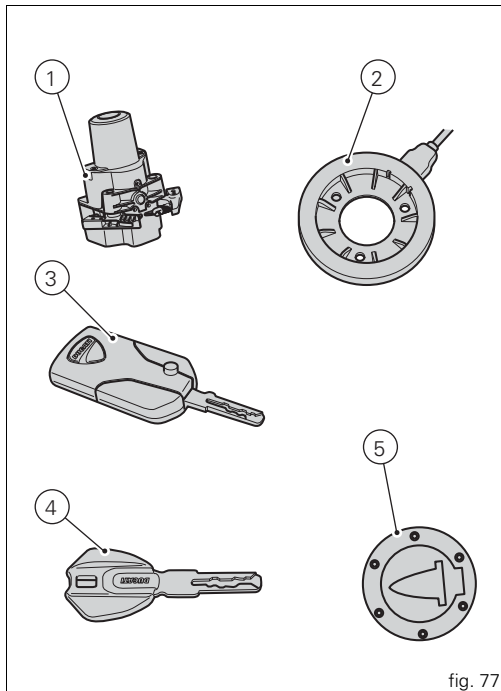

fig. 77
The "Hands free" lock (1, fig. 77) is located on the front of the tank. The door must be removed to access it (2).
Key-Off consists in turning off the hands free system and all electronic devices, and makes sure the engine is turned off. Key-On is done using the button (6) on the handlebar on the right switch or using the emergency button (7) on the Hands free lock (1, fig. 77).
Key-On can only occur in the presence of one of the two keys (3, fig. 77) or (4, fig. 77) or using the pin code.
Key-Off can also occur without a key (3, fig. 77) or (4, fig. 77).
When the battery is discharged, the active key (3, fig. 77) acts like a passive key (4, fig. 77). The instrument panel displays the discharged battery status.
A Key-On can be performed by pressing the red key (6) on the handlebar in the HANDS FREE ON/OFF position and in the presence of the active key (3, fig. 77).
The active key (3, fig. 77) has a range of approx. 1.5 m, therefore it must be located within this range.
Key-Off can be performed by pressing the red key (6) on the handlebar in the HANDS FREE ON/OFF position. It can be done also without the key (3, fig. 77) only if the motorcycle speed is equal to zero.
Key-On can be performed by pressing the button (7) on the Hands free lock (1, fig. 77) and with the presence of the active key (3, fig. 77).
Key-Off can be performed by pressing the button (7) on the Hands free lock (1, fig. 77), also without the key (3, fig. 77).
A Key-On can be performed by pressing the red button (6) on the handlebar in the HANDS FREE ON/OFF position and in the presence of the passive key (4, fig. 77).
The passive key (4, fig. 77) has a range of a few cm, therefore the key (4, fig. 77) must be positioned near the antenna (2).
Key-Off can be performed by pressing the red button (6) on the handlebar in the HANDS FREE ON/OFF position. It can be done also without the key (4, fig. 77) only if the motorcycle speed is equal to zero.
Key-On can be performed by pressing the button (7) on the Hands free lock and with the presence of the passive key (4, fig. 77).
The passive key (4, fig. 77) has a range of a few cm, therefore the key (4, fig. 77) must be positioned near the antenna.
Key-Off can be performed by pressing the button (7) on the Hands free lock (1, fig. 77), also without the key (4, fig. 77).
Key-On can be performed by pressing the button (7) on the hands free lock (1, fig. 77) without the presence of the keys (3, fig. 77) and (4, fig. 77) and entering the pin code on the dashboard.